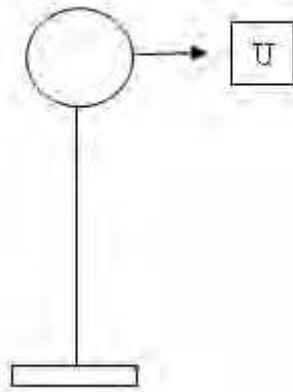

Figure 6:
6. A free vibration test is conducted on an empty elevated water tank which is idealized as a single degree freedom system shown in figure 6. A cable attached to the tank applies a lateral (horizontal) force of 16.4 tonnes and pulls the tank horizontally by 5cm. The cable is suddenly cut and the resulting free vibration is recorded. At the end of four complete cycles, the time is 2.0 sec and the amplitude is 2.5 cm. From these data compute the following: